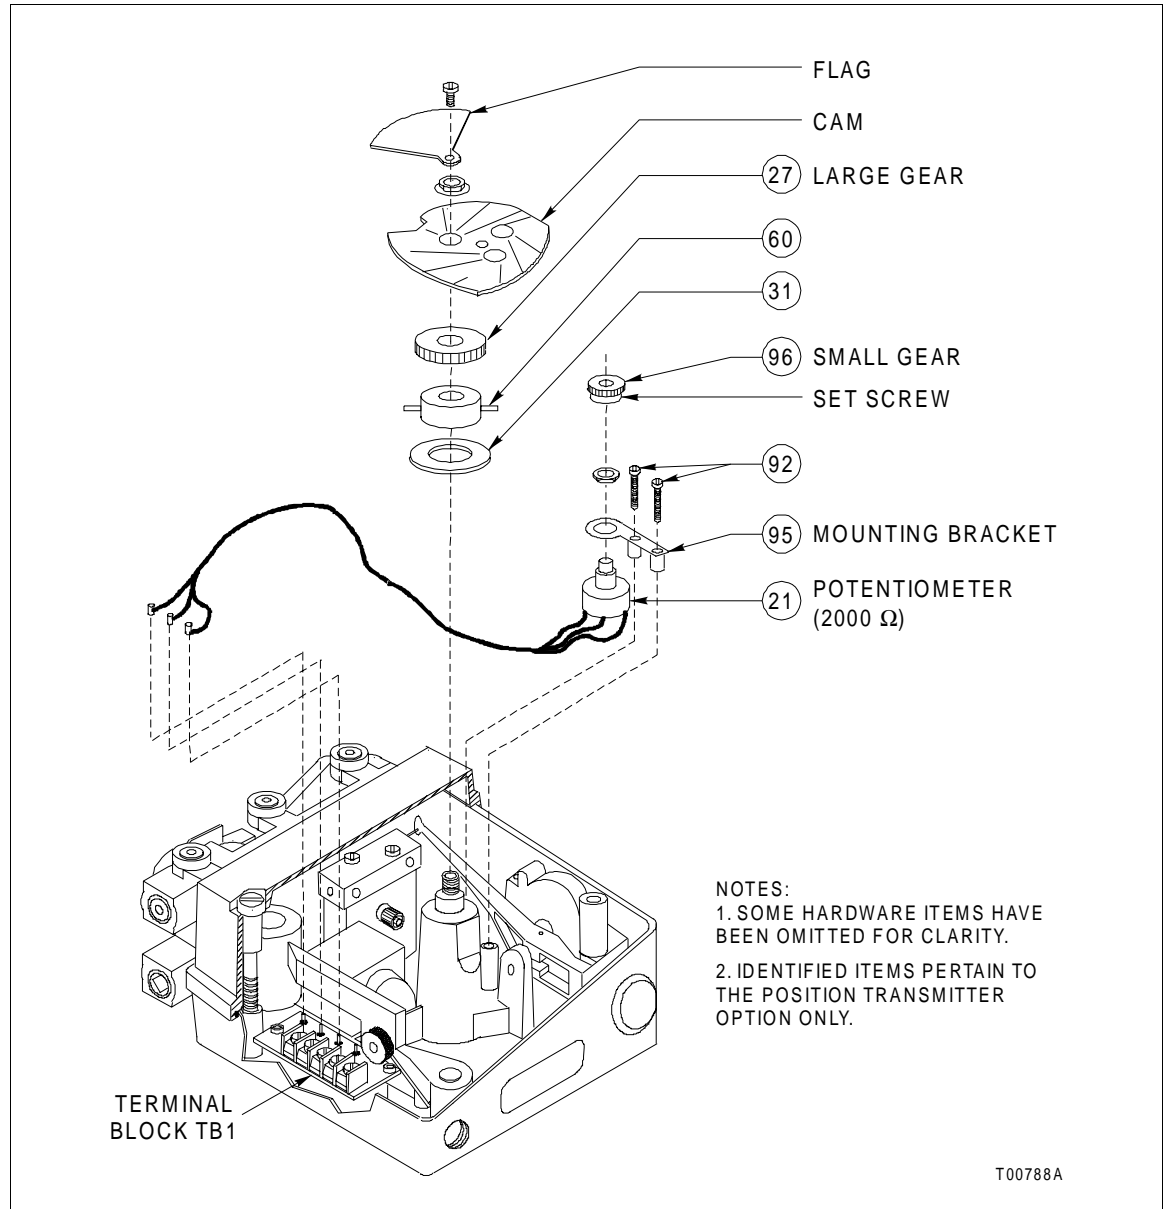

Figure A-3. Potentiometric Position Transmitter Assembly (Exploded View)
- a. Remove the cam by removing the screw, flag, nut, and washer (Fig. A-3).
- b. Loosen the set screw on the hub of the small gear using a $\frac{1}{16}$ -inch Allen wrench (Fig. A-3).
NOTE: If the mesh between the large and small gears is not tight, adjust the position of the potentiometer mounting bracket (Fig. A-3) so that backlash is eliminated.
- e. Remove the ohmmeter from TB1-1 and TB1-2. Install the cam, screw, flag, nut, and washer (Fig. A-3).